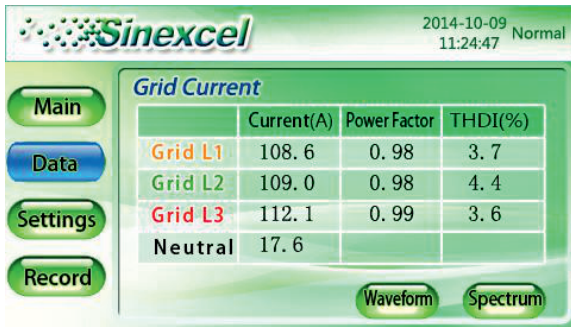
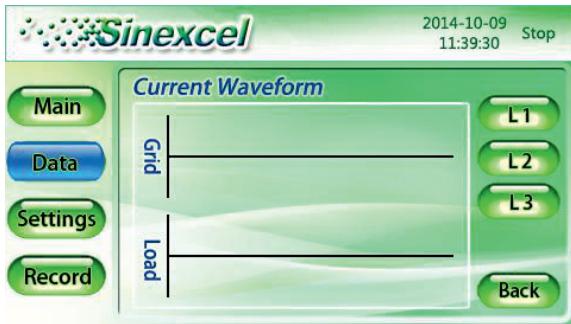

Figure 5-7 Information of grid current
Figure 5-8 Waveform of grid current and load current
- ◆ Click “**Grid Current**” in Figure 5-6 to check the information of grid current, as shown in Figure 5-7;
- ◆ Click “**Waveform**” and “**Spectrum**” in Figure 5-7 to check the waveform and spectrum of grid current, as shown in Figure 5-8 and 5-9;